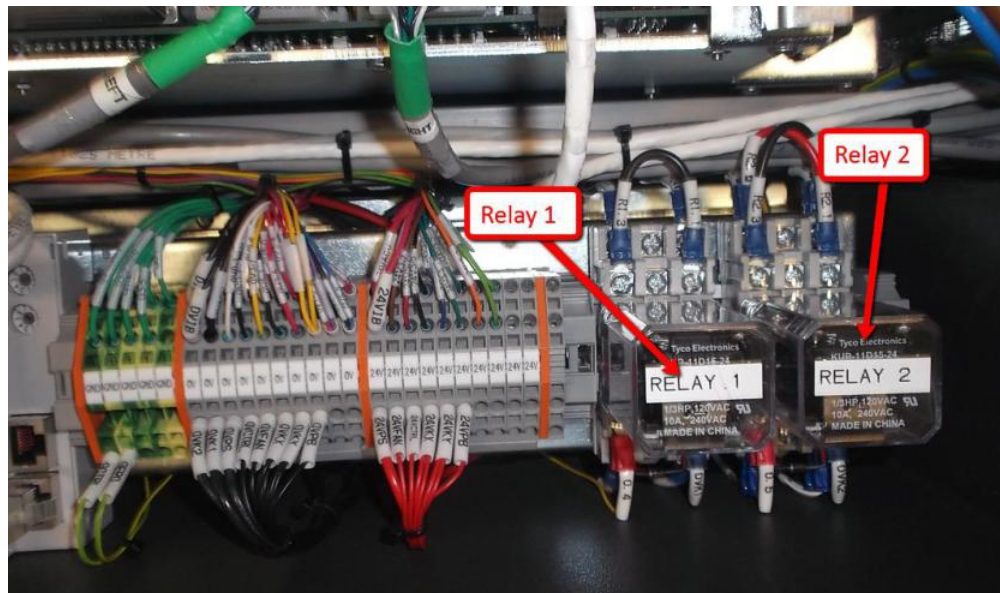

Figure 4 Relay Removal
4. Extend SSCA Support Rod which locate underneath of SSCA as below Figure 4
6. Unplug & remove Defective Relay as shown in Figure 4
5. Enable “Stage Belts on” as shown in Figure 4. Visual check Belt Running Status at both rail